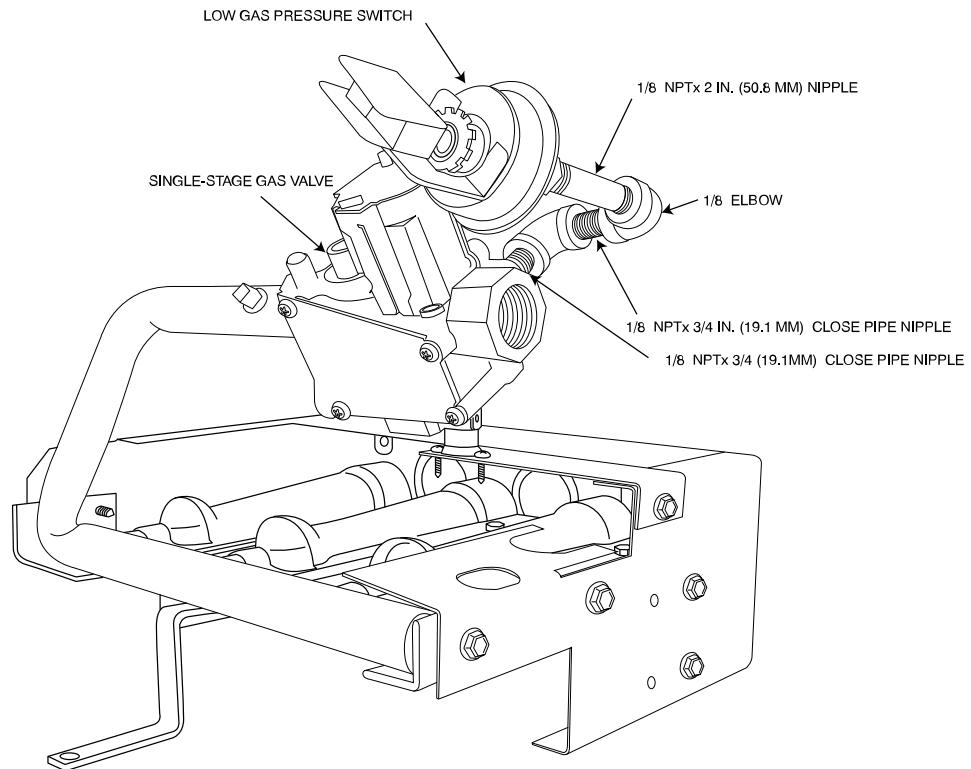

Fig. 6 – Installing Elbows, Nipples, and Pressure Switch on Single-Stage Units
16. Install the 1/8 in. NPT x 3/4 in. (19 mm) close pipe nipple where the plug was removed (see Fig. 6). Use pipe thread dope (field-supplied, must be certified for use with propane gas) for all joints, making sure not to get any excess in the pipe or valve. Next, install a 1/8 in. elbow, a 1/8 in. NPT x 3/4 in. (19 mm) close pipe nipple, 1/8 in. elbow, 1/8 in. x NPT 2 in. (51 mm) nipple, and a low gas pressure switch as shown in Fig. 6.